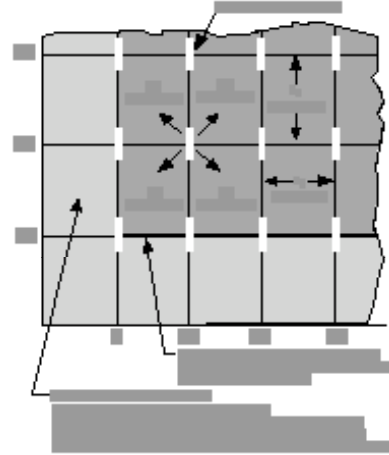

Figure 3 — Typical Area Heating Layout
1. Space the heaters to provide a 50% overlap using the formula provided in Table 1. See Figure 3 for typical layout.